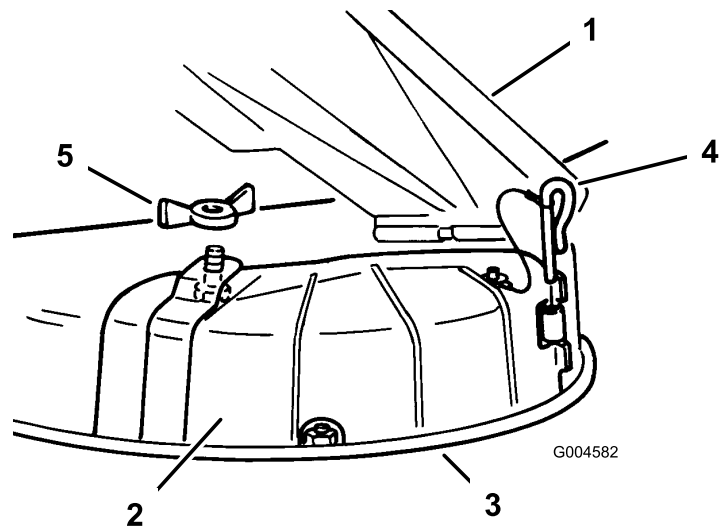

Figure 6
4. Remove the wing nut, bolt and the hinge pin securing the side-discharge cover in place and lift the cover out and away from the deck (Figure 6). Retain all parts for future use.